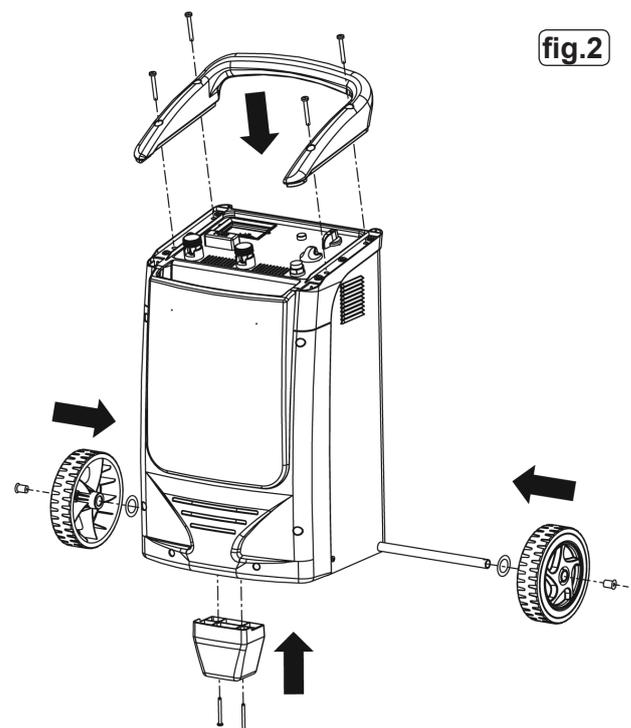

fig.2
- 3.1 GENERAL ASSEMBLY.** Assemble the handle and foot to the main casing using the fittings provided as indicated in fig.2.
- 3.1.2 Attach the wheels using the fittings provided as indicated in fig.2.